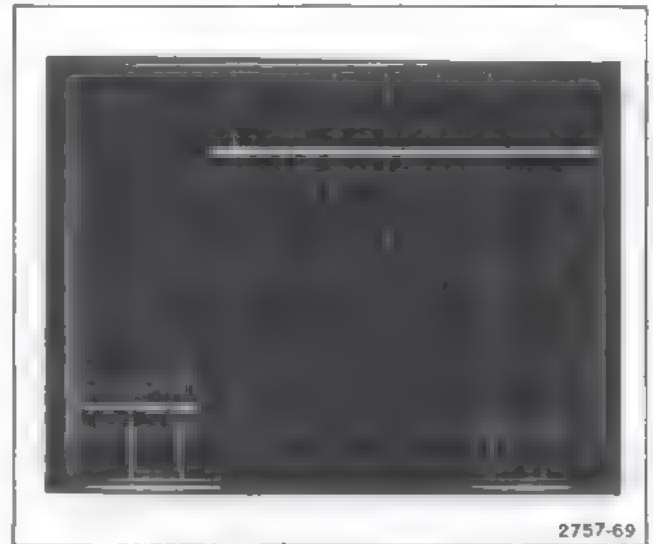

Figure 4-1. Typical display when high-frequency compensation is correctly adjusted.
e. CHECK—Flat-top display aberrations are within 4% (± 0.2 division). See Figure 4-1 for typical display.
c. CHECK—Flat-top display aberrations are with 4% (± 0.2 division). See Figure 4-1 for typical display.